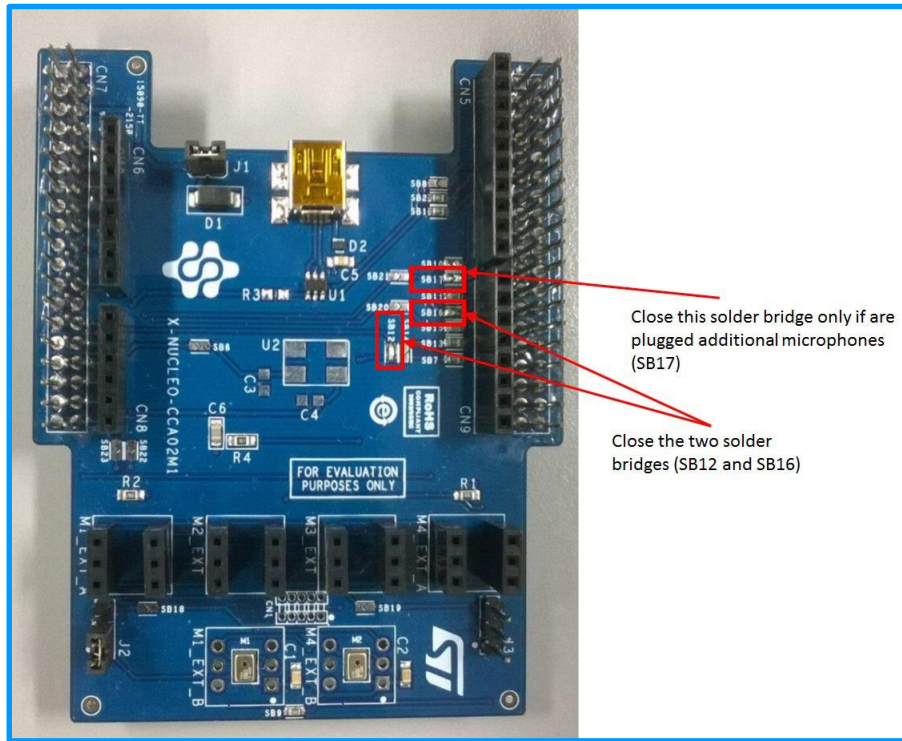

Figure 1 – Modifications of the X-NUCLEO-CCA02M1 board
- Before connecting the X-NUCLEO-CCA02M1 expansion board with the STM32 Nucleo board through the ST morpho connector - and only when using a NUCLEO-L476RG board - close the three solder bridges SB12, SB16 and SB17, as shown Figure 1. This is to be done only in case additional microphones are plugged.